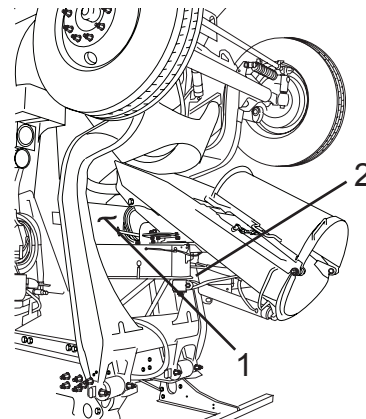

Figure 133
The hydraulic chute swing option (Figure 133, Item 1) allows the operator to move the discharge chute from the standard in-cab control keypad or rear pendant keypad.
1. Release the manual chute lock (Figure 133, Item 2).